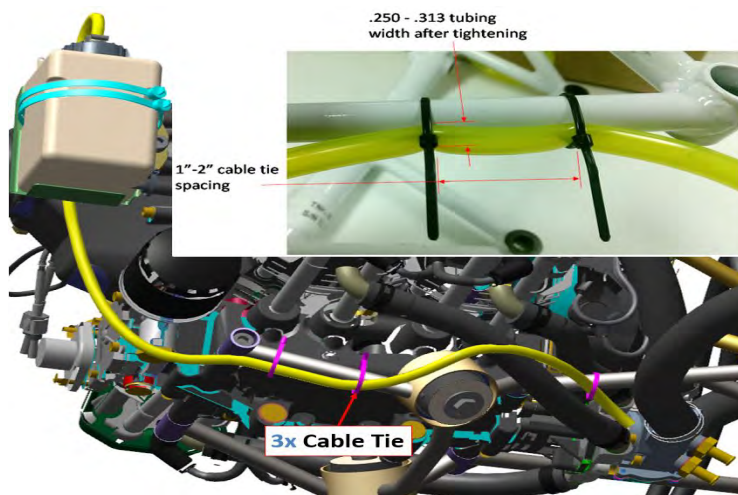

FIGURE 17-39
- c. Secure the Tygon tubing to the engine mount as shown in shown in Figure 17-39 using three TY23MX cable ties. The cable ties should be spaced 1-2 inches apart and tightened until tubing width measures .250-.313 as shown. Before tightening the cable ties, ensure that the tubing does not have enough slack to contact any rotating hardware such as the cooling fan or prop flange.